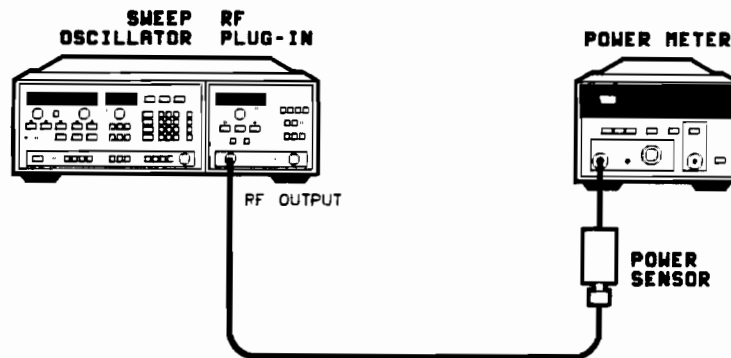

Figure 4-3. Power Level Accuracy, Maximum Leveled Output Power, and Power Variations Test Setup
12. Connect the equipment as shown in Figure 4-3, but do NOT connect the power sensor to the plug-in.